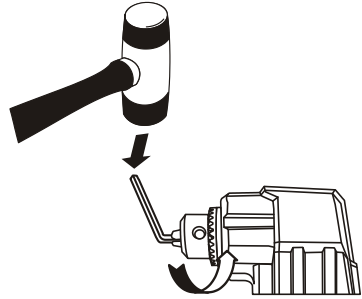

Fig. 9
7. Insert the hex key into the chuck and tighten the jaws of chuck securely (Fig. 9). Tap the hex key sharply with a mallet in a COUNTERCLOCKWISE direction. This will loosen the chuck on the spindle. The chuck can now be unscrewed and removed from the spindle by hand.